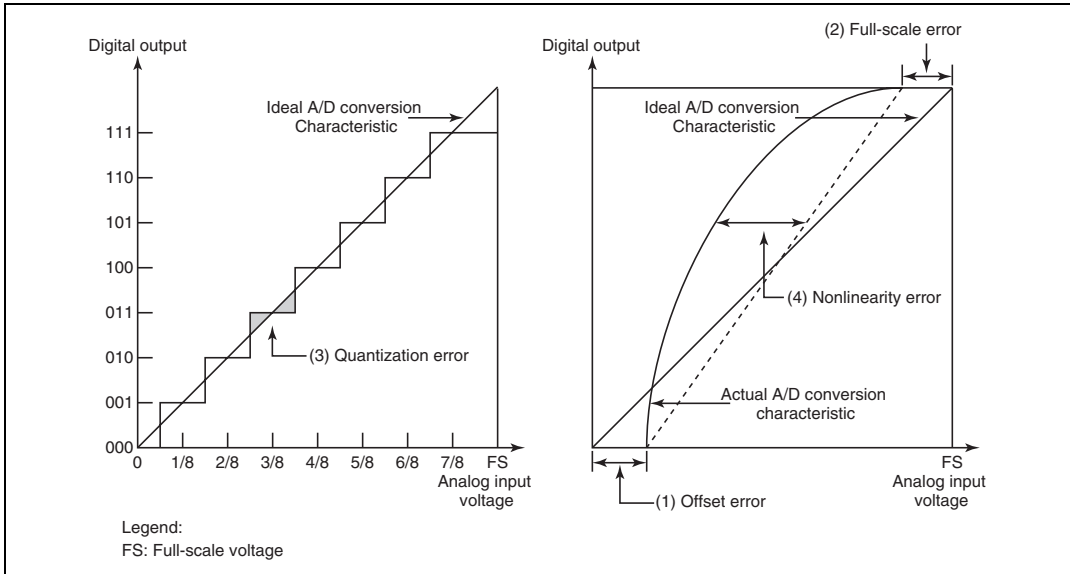

Figure 14.7 A/D Conversion Precision Definitions
- (1) Offset error
- (2) Full-scale error
- (3) Quantization error
- (4) Nonlinearity error
The above four kinds of error are described below with reference to figure 14.7. For the sake of clarity, this figure shows 3-bit mid-speed A/D conversion rather than 10-bit mid-speed A/D conversion. Offset error (see figure 14.7 (1)) is the deviation between the actual A/D conversion characteristic and the ideal A/D conversion characteristic when the digital output value changes from the minimum value (zero voltage) of 000000000 (000 in the figure) to 000000001 (001 in the figure). Full-scale error (see figure 14.7 (2)) is the deviation between the actual A/D conversion characteristic and the ideal A/D conversion characteristic when the digital output value changes from 111111110 (110 in the figure) to the maximum value (full-scale voltage) of 11111111 (111 in the figure). Quantization error is the deviation inherent in the mid-speed A/D converter, given by 1/2 LSB (see figure 14.7 (3)). Nonlinearity error is the deviation between the actual A/D conversion characteristic and the ideal A/D conversion characteristic from zero voltage to full-scale voltage (see figure 14.7 (4)). This does not include offset error, full-scale error, and quantization error.